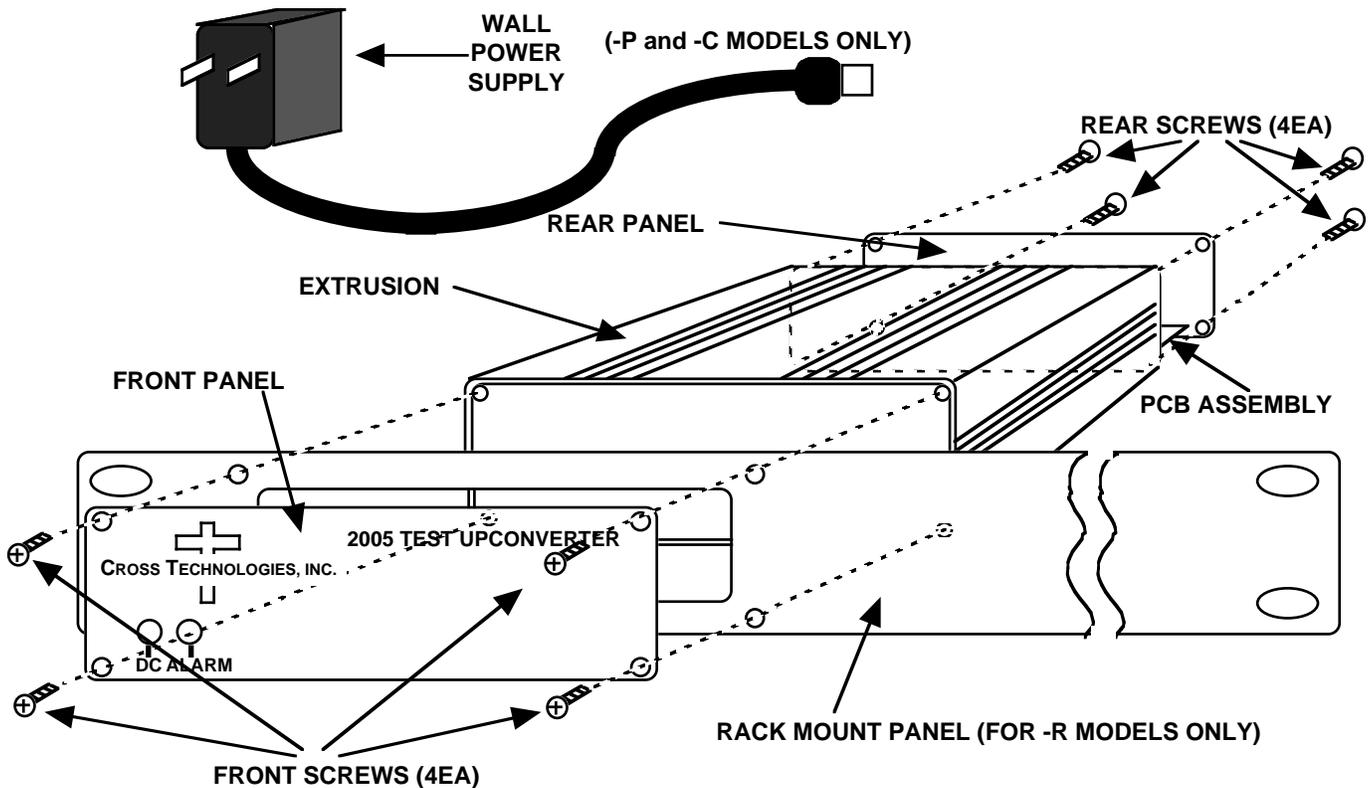
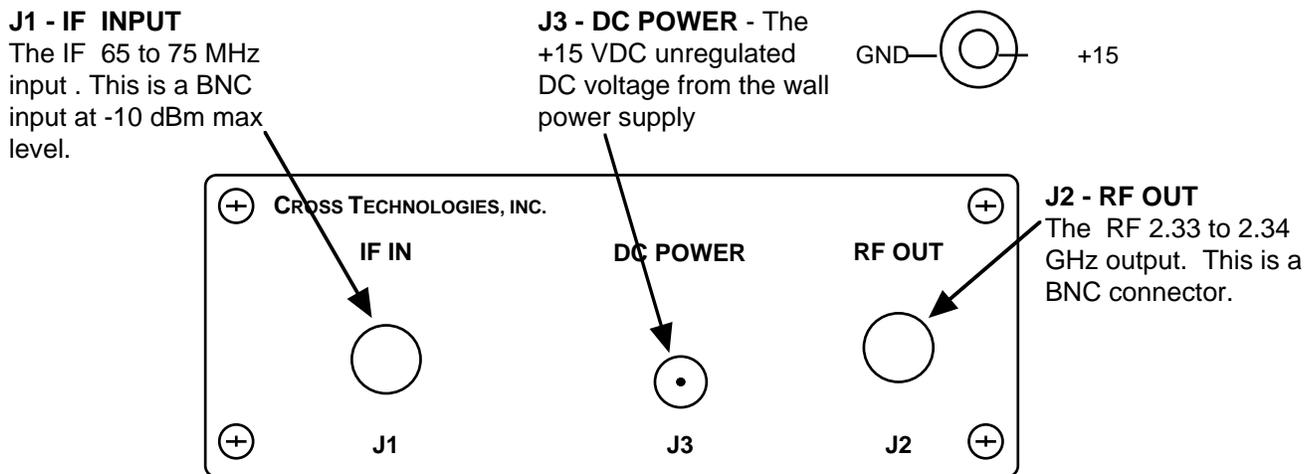

FIGURE 2.1 2005 Assembly Drawing
FIGURE 2.3 2005-23 Rear Panel Inputs and Outputs
2.1 Mechanical - The 2005 is packaged in an aluminum extrusion. The **-R option** is mounted on a 1 3/4" X 19" panel that can be mounted to a rack using the 4 holes at the ends. The unit derives +DC from the RF out center conductor (+14 to +24 VDC) or the wall power supply (**option -P, option -C**) (+15V unregulated). See Figure 2.1.
2.3 Rear Panel Input / Output Signals - Figure 2.3 shows the input and output signals to the 2005-23.
- 2.) Remove four (4) **rear panel screws** (see Figure 2.1).
- 5.) Install four (4) **rear panel screws**.
- 2.) If using the wall power supply, connect it to the 2005-23 and the wall power supply to 115 VAC, 60 Hz (Figure 2.1)
- 3.) Connect a -10dBm (max.) signal to IF In, J1 (Figure 2.1, Figure 2.3).
- 4.) Connect the RF OUT, J2, to the receiver under test (Figure 2.3).